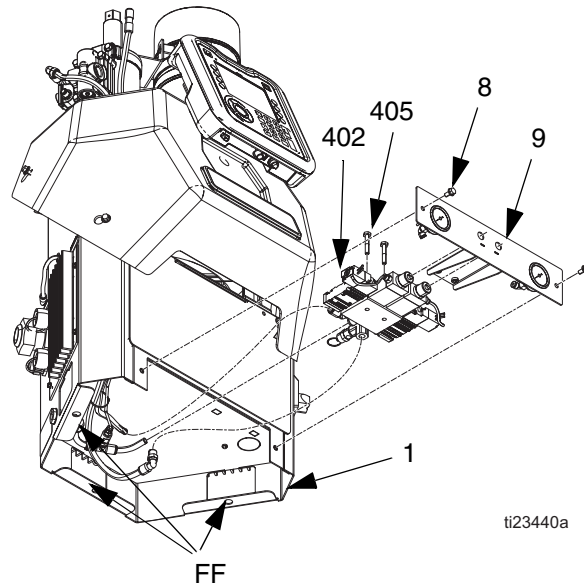
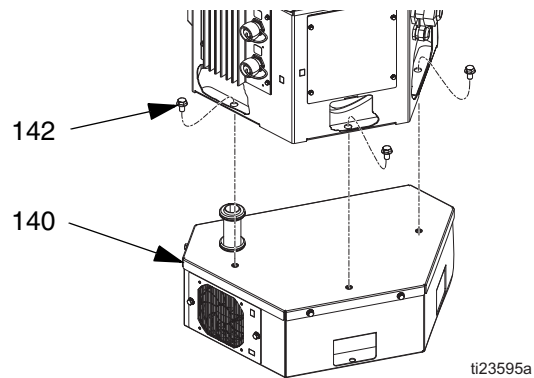

FIG. 52
FIG. 53
Disassembly (see FIG. 52):
4. Remove front access panel (10) from electrical enclosure (1).
5. Remove the transformer assembly; for 480V systems only (see FIG. 53):
- b. Remove three screws (142) and InvisiPac system off of transformer assembly (140).
6. Use 3/8 in. socket to remove two screws (8).
8. Insert hands through access holes (FF), see FIG. 52, in bottom of electrical enclosure then disconnect air lines from air control solenoids (402).
10. Remove two screws (405) securing solenoids (402) to air control assembly (9) then remove air control solenoids.
Reassembly (see FIG. 52):
1. Use two screws (405) to secure new solenoids (402) to air control assembly (409).
3. Insert hands through access holes (FF), see FIG. 52, in bottom of electrical enclosure then connect air lines to air control solenoids (402).
4. Slide air control assembly (9) into place then use two screws (8) to secure to electrical enclosure (1).
5. For 480V systems, install transformer assembly (140) with screws (142) and reconnect transformer wires to J2 connector on AWB board and the main power switch.